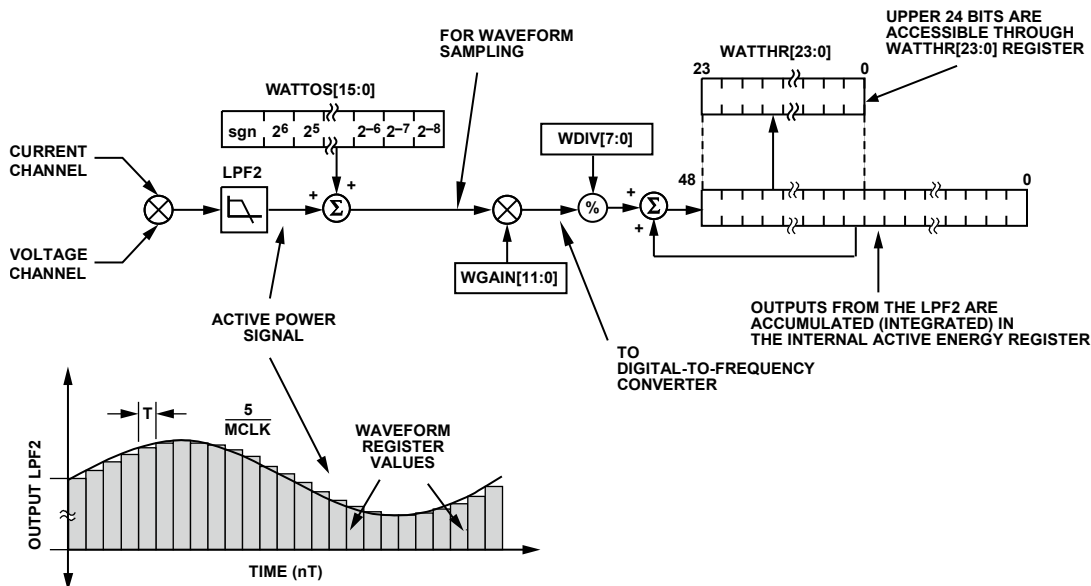

Figure 52. Active Energy Calculation
Figure 52 shows the signal processing chain for the active power calculation in the ADE7518. As explained previously, the active power is calculated by filtering the output of the multiplier with a low-pass filter. Note that when reading the waveform samples from the output of LPF2, the gain of the active energy can be adjusted by using the multiplier and watt gain register (WGAIN[11:0]). The gain is adjusted by writing a twos complement 12-bit word to the watt gain register. Equation 10 shows how the gain adjustment is related to the contents of the watt gain register.
The discrete time sample period (T) for the accumulation register in the ADE7518 is 1.22 μ s ($5/MCLK$). In addition to calculating the energy, this integration removes any sinusoidal components that may be in the active power signal. Figure 52
The output of the multiplier is divided by the value in the WDIV register. If the value in the WDIV register is equal to 0, the internal active energy register is divided by 1. WDIV is an 8-bit unsigned register. After dividing by WDIV, the active energy is accumulated in a 49-bit internal energy accumulation register. The upper 24 bits of this register are accessible through a read to the active energy register (WATTHR[23:0]). A read to the RWATTHR register returns the content of the WATTHR register, and the upper 24 bits of the internal register are cleared. As shown in Figure 52, the active power signal is accumulated in an internal 49-bit signed register. The active power signal can be read from the waveform register by setting the WAVMODE register (0x0D) and setting the WFSM bit in the Interrupt Enable 3 SFR (MIRQENH, 0xDB). Like the current and voltage channels waveform sampling modes, the waveform data is available at a sample rate of 25.6 kSPS, 12.8 kSPS, 6.4 kSPS, or 3.2 kSPS.